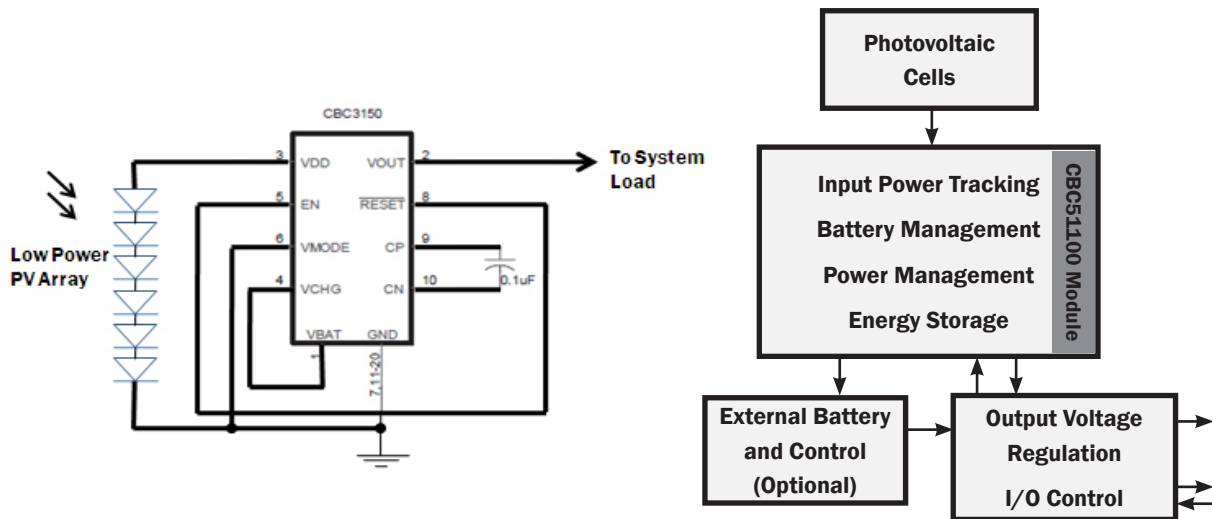
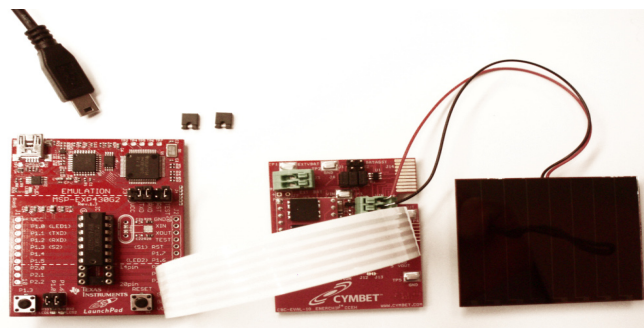

Figure 3: Implementing Energy Harvesting with the EnerChip CC CBC3150 on the CBC-EVAL-10 Evaluation Kit.
Figure 4: CBC-EVAL-10 Demo Kit Connected to the LaunchPad.
CBC-EVAL-10 is a demonstration kit that provides designers a platform to easily develop Energy Harvesting (EH) solutions using the EnerChip CBC3150™ configured to operate in an energy harvesting mode. The kit (shown in Figure 4) combines a small solar panel, power management circuit, energy storage, regulated output voltage, and input/output pins for connection to commercially available microcontroller (MCU) and radio boards. A 16-pin CBC51100 module is included, providing the EH functions, battery management, and 100μAh solid state rechargeable energy storage. CBC-EVAL-10 is a practical, low cost realization of an EH-based power system that can provide many years of service without need of battery maintenance. Figure 3 illustrates the basic configuration of the EnerChip CC circuit as implemented on the CBC-EVAL-10 development module designed for evaluating the EnerChip CC devices in energy harvesting applications. The CBC-EVAL-10 data sheet is located here: <http://www.cymbet.com/content/products-resource-docs.asp>. The EVAL-10 is available at Avnet, Digi-Key and Mouser.
The white cable included in the EVAL-10 kit is used to connect the two kits together (see Figure 4). The cable is placed over all five pins on EVAL-10 J9 and all three pins on the TI LaunchPad J6 connector. Ensure that pin 5 on the EVAL-10 connector is connected to VCC on the LaunchPad.